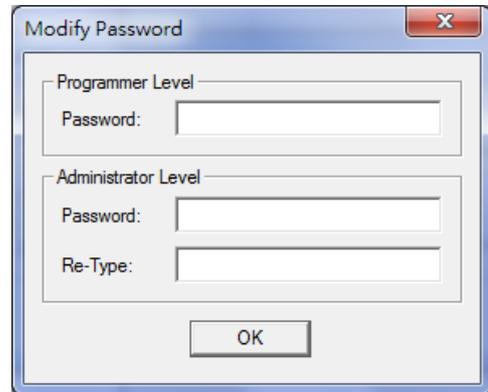

Fig. 1.6.10
**Administrator:** Administrator level users are able to use all the functions and modify their passwords to manage the system, see Fig.1.6.10.